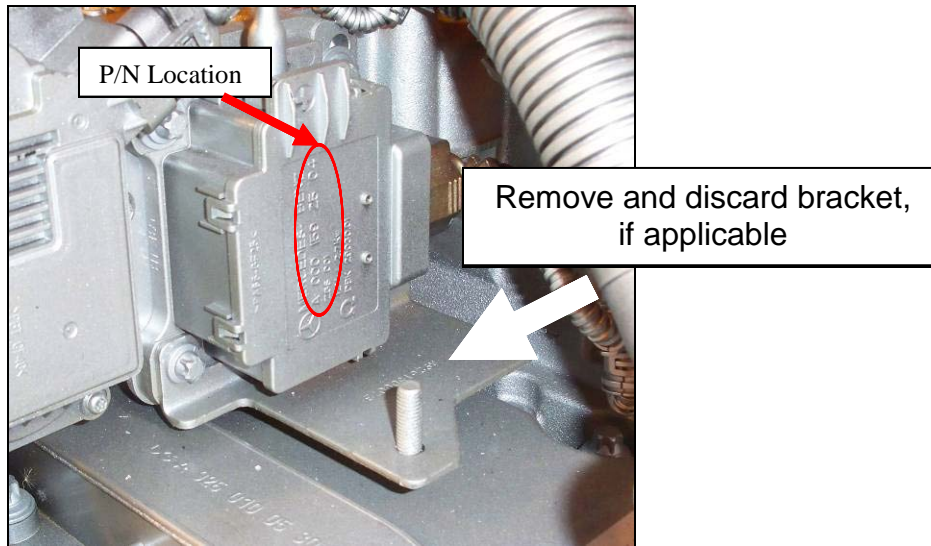

Figure 1 – Relay Ground Bracket to be Removed
4. Remove mounting bolts securing the grid heater to the mixer housing. Remove and discard the attached relay ground bracket, if equipped. See Figure 1.